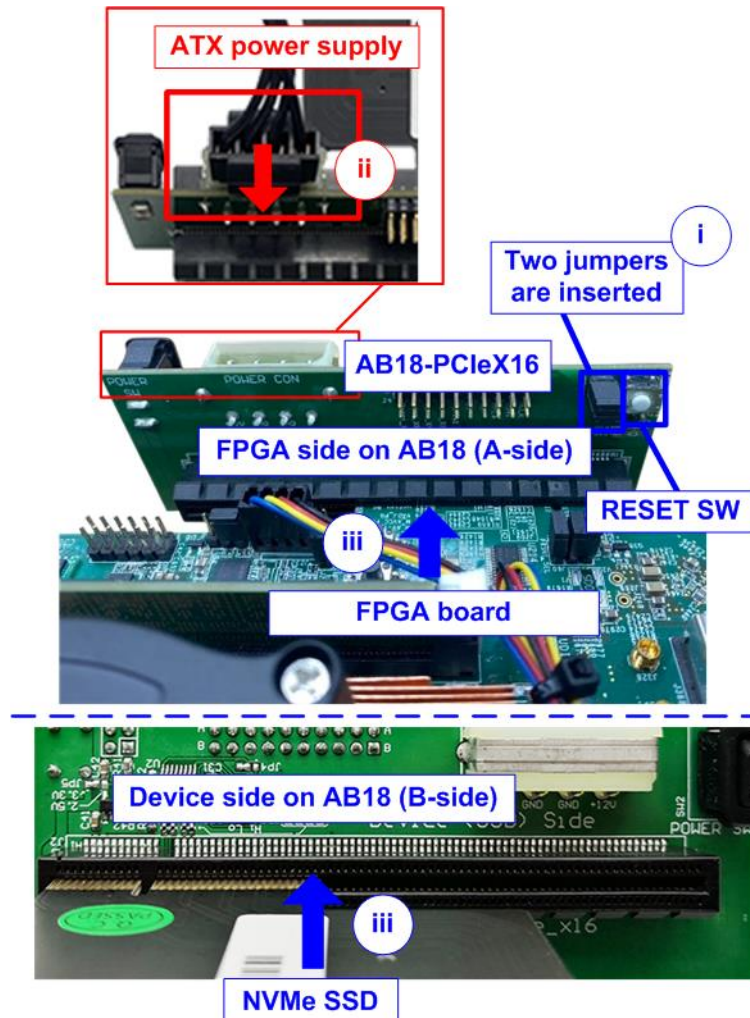

Figure 5 Setup AB18-PCIeX16 connection
- iii) Connect PCIe connector on FPGA board to FPGA Side (A-side) of the AB board, and connect the NVMe PCIe SSD to the device side (B-Side) of the AB board, as shown in Figure 5.